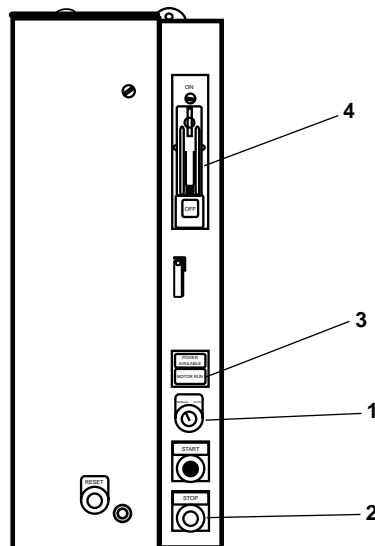

Figure 4. Air Compressor Motor Controller
1. Set the AUTO/MANUAL switch (figure 4, item 1) on the failed compressor's motor controller to MANUAL.
2. Press the STOP pushbutton (figure 4, item 2) and observe that the MOTOR RUN indicator light (figure 4, item 3) goes out.
3. Turn OFF the main disconnect switch (figure 4, item 4).